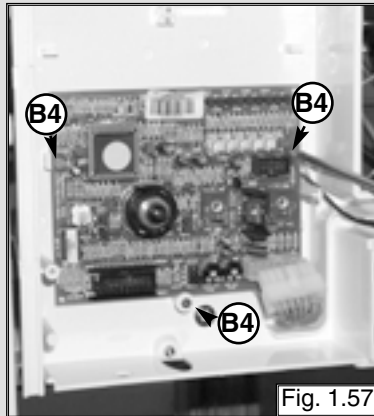

Fig. 1.57
7. To remove the 24V P.C.B.: remove the electrical plug connectors and screws "B4" (see fig. 1.57);